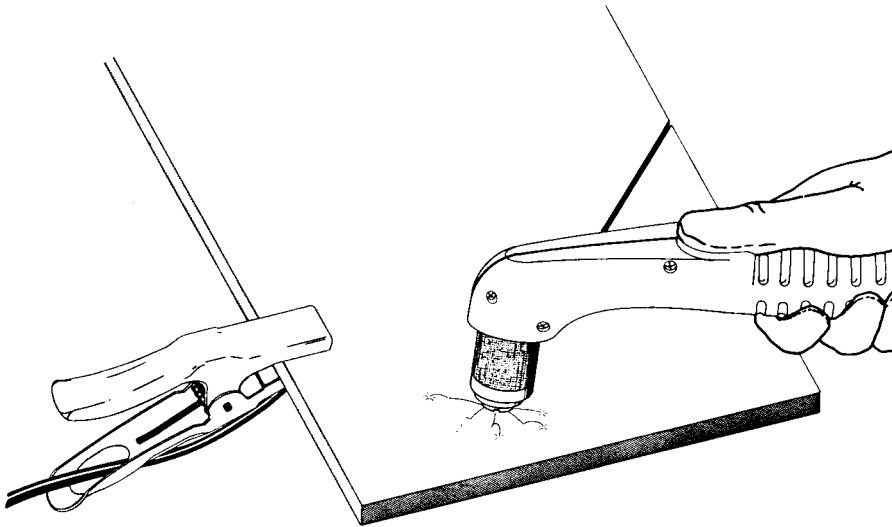

Figure 4-4 Proper Work Clamp Connection
15. Adjust the work clamp to the work table or workpiece. Do not attach the work clamp to the portion of the workpiece that will fall away. See Figure 4-4.